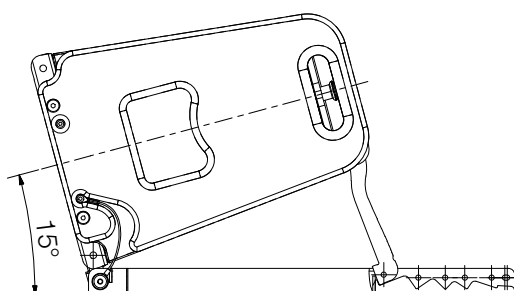

Figure 4.6.5 - Side view VERA20 loudspeaker 15° downtilt
8. Select the appropriate level (number of degrees) for your system setup. See figures 4.6.5 to 4.6.10.